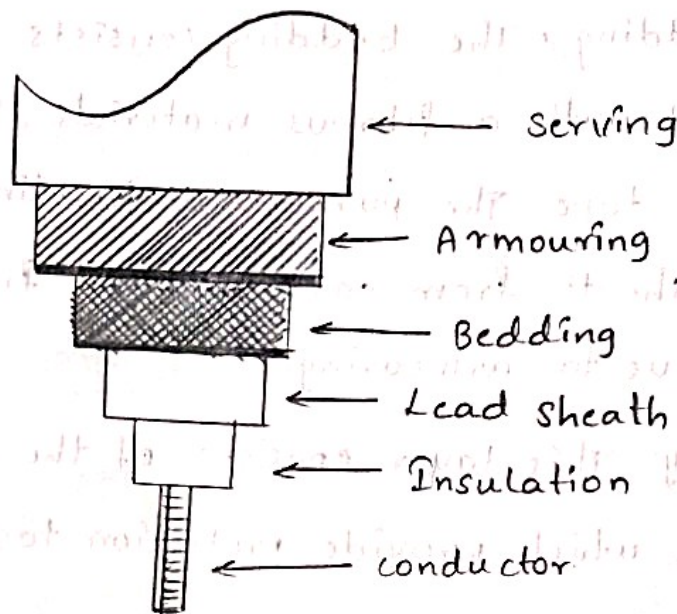

Fig. 8.12.1 General construction of a cable.
- * The fig. 8.12.1 shows the general construction of a cable. The cable shows is single conductor underground cable- Its various parts are,